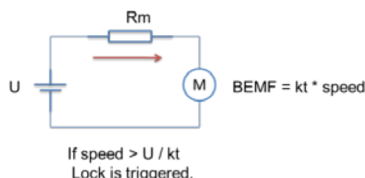

Figure 12. BEMF Monitoring
If the motor is in normal operation the motor BEMF will always be less than the voltage applied to the phase. The DRV10963 sensorless control algorithm is continuously updating the value of the motor BEMF based on the speed of the motor and the motor K_t as shown in Figure 12. If the calculated value for motor BEMF is higher than the applied voltage (U) for a certain period of time (TON_LOCK) then there is an error in the system. The calculated value for motor BEMF is wrong or the motor is out of phase with the commutation logic. When this condition is detected a lock detect is triggered.